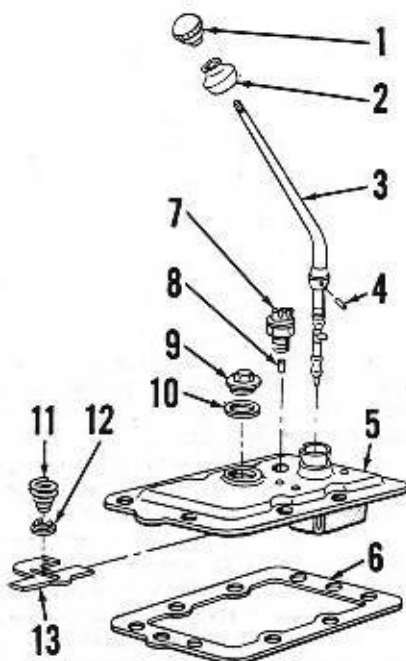
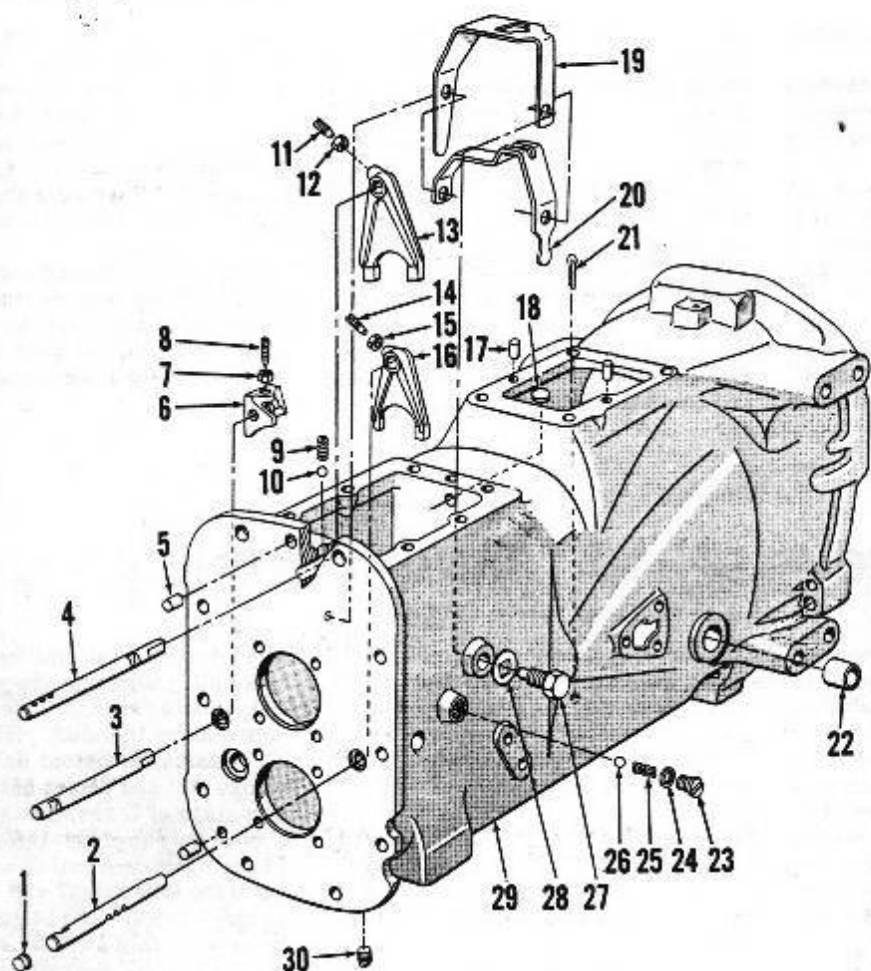

Fig. 183—Exploded view of four-speed transmission shift cover. Refer to Fig. 184 for remainder of shift mechanism.
Fig. 184—Exploded view of four-speed transmission case and shifter mechanism. Refer to Fig. 183 for shift cover assembly.
Disconnect starter safety switch wire from switch, unbolt and remove shift lever and transmission top cover assembly (see Fig. 183) and remove the 1st-3rd shift rail detent spring (9—Fig. 184) and detent ball (10). Loosen locknut (12) and remove the 1st-3rd shifter fork lock screw (11), then re-